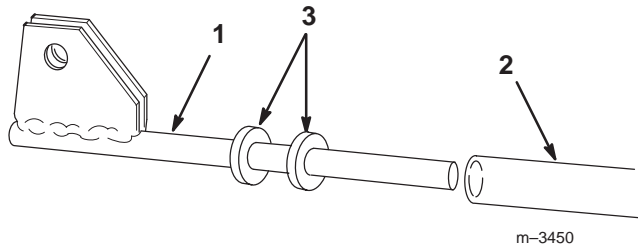

Figure 16
2. Add two 1 in (25 mm) washers onto the end of the lift rod assembly, then slide it into the lift tube (Fig. 16).
Important The washers (Fig. 16) adjust how low the snowthrower can drop below grade. If the snowthrower drops too low, the drive belt can lose tension and slip. Add washers, as needed, to prevent this problem.